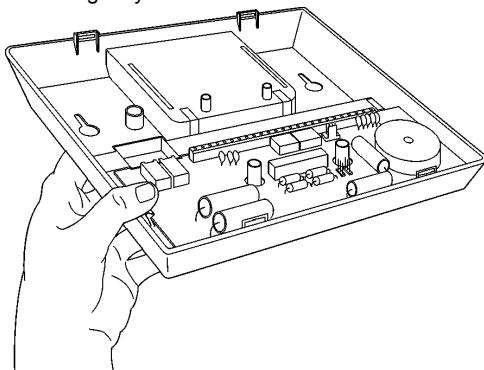

Figure 2-3: Releasing the PCB
4. Release the back panel holding tabs (see Figure 2-3) located on both sides of the PCB and pull out the PCB gently.